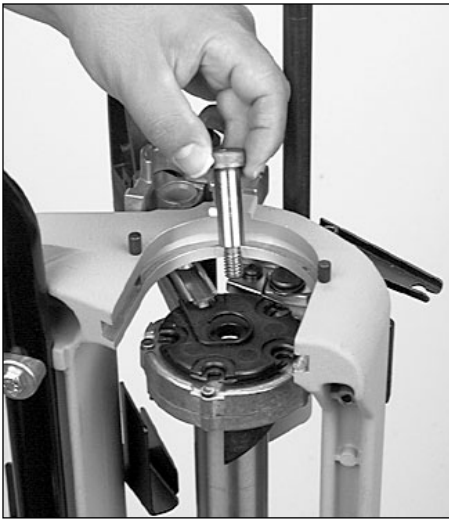

FIG 159
2. Using a 1/4" Allen wrench remove the shellplate bolt **FIG 159**.